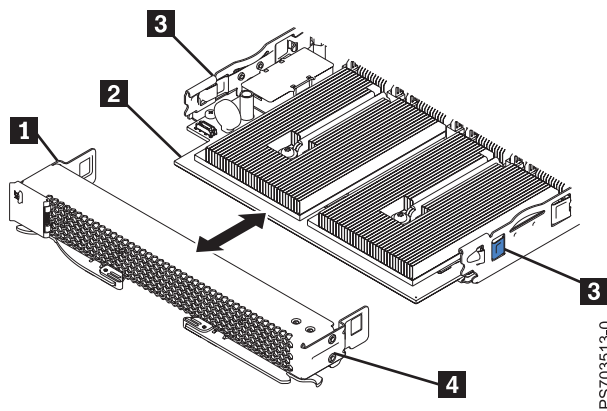

Figure 27. Installing the bezel assembly
1. If you are servicing a base unit and not an expansion unit, connect the control-panel cable (**1** in Figure 27) to the control-panel connector (**2**) on the system board.